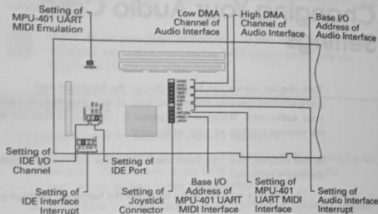

Figure 3-1: Jumpers on the audio card.
If you intend to change the hardware settings of your audio card, you should first become more familiar with the jumpers on the card shown in Figure 3-1.
3. Identify the jumpers to change. For more information on how to identify the jumpers, refer to Figure 3-1.